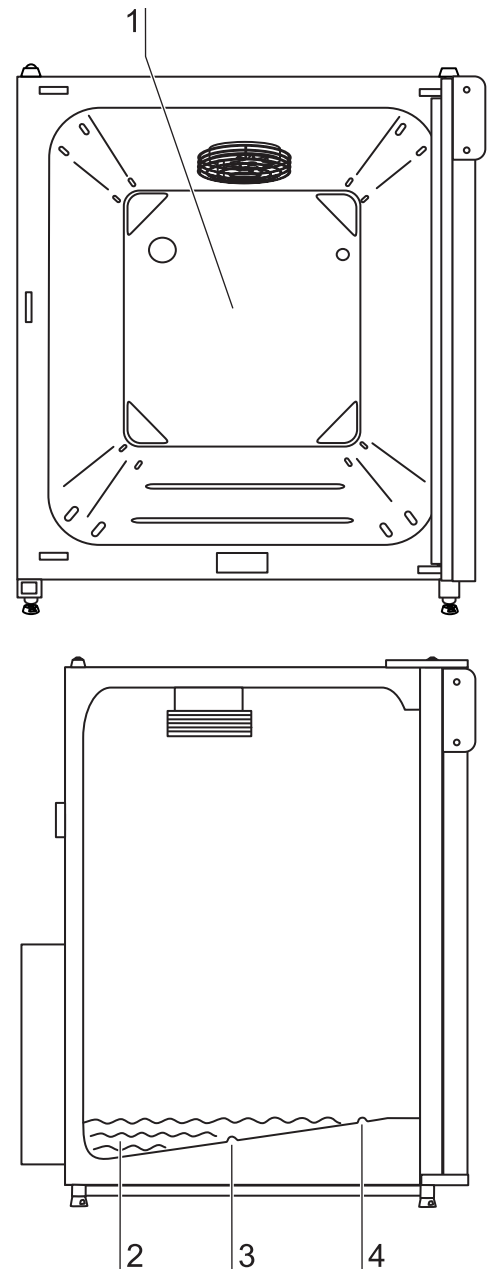

Fig. 9
**Fig. 9:** The power supply connection [5] of the device is established via a cable with a connector for non-heating appliances. The holder for the two device fuses is integral to the power supply socket.
**Fig. 9:** The components of the shelf system can be removed easily so that only the easily treatable, surface-reduced internal chamber [1] remains in the work space for cleaning and manual disinfection works.
**Fig. 9:** The water reservoir [2] is integral to the internal chamber floor and inclines toward the rear. The embossing in the water tray is used to indicate minimum level [3] and the maximum level [4].